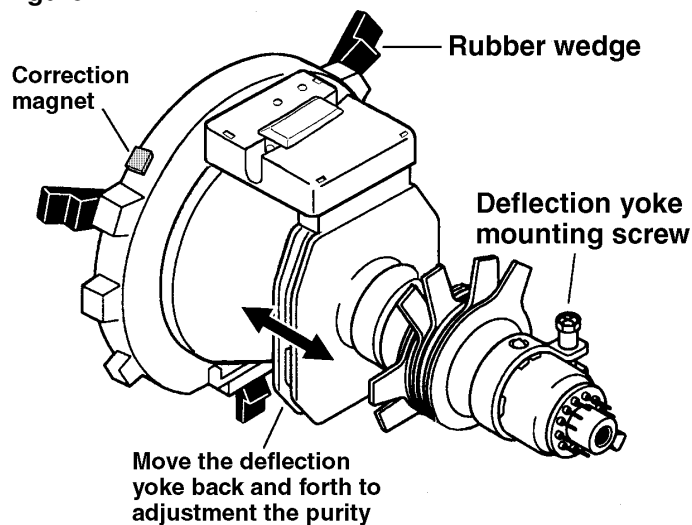

Figure 2
5. Adjust the angle between the tabs (wings) on purity magnets to center the vertical green belt in the picture tube screen. (See Figures 2 and 3.)